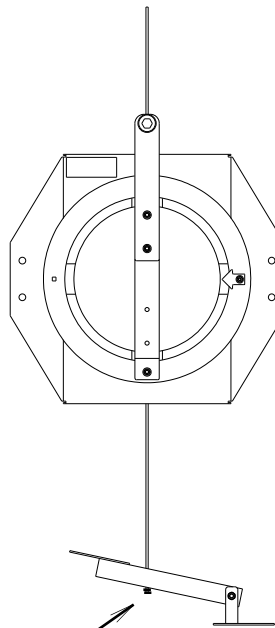
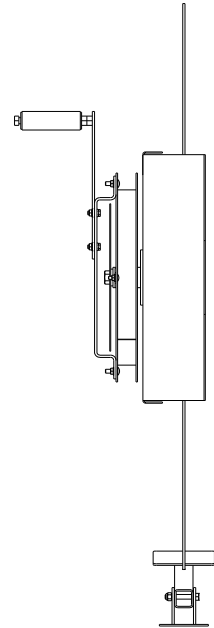

Figure 1
Figure 2
1. Verify cable positioning so that there is no interference between the cable and steel when the foot control is actuated (See Figure 1 & Figure 2). Failure to do so can result in frayed cable.
2. Secure Distributor Foot Control assembly to floor using (2) 1/2" anchors (*not supplied*).
3. Run cable through the holes in the foot control as shown. Secure the cable in place by attaching two cable clamps to the cable on the underside of the foot control. (See Figure 1)